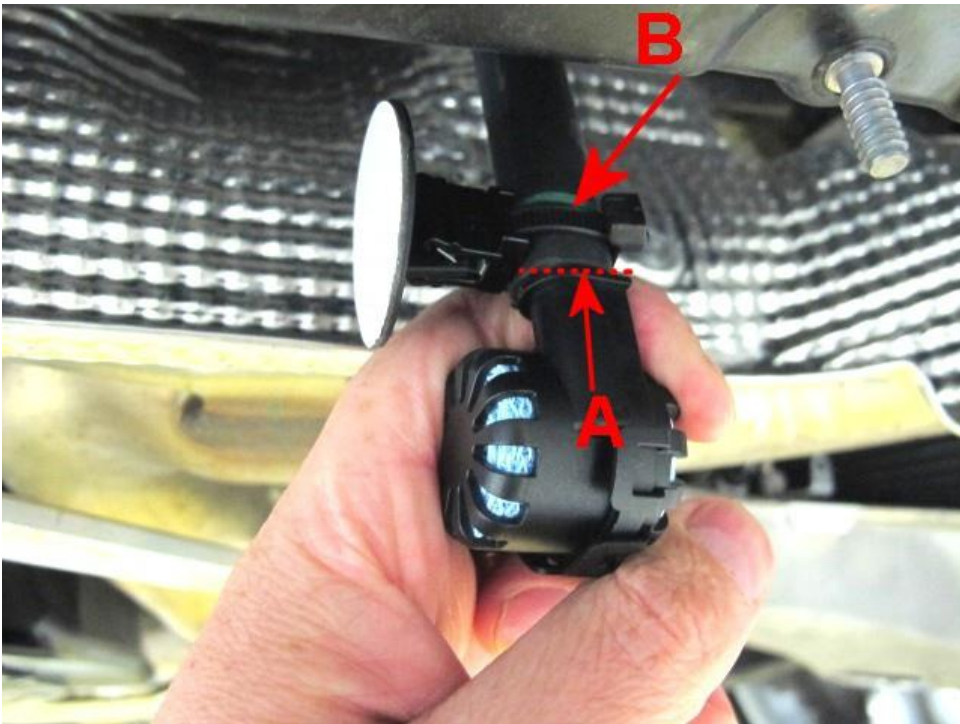

Figure 7
5) Referring to Figure 7 insert the silencer into the hose until it reaches (Point A)